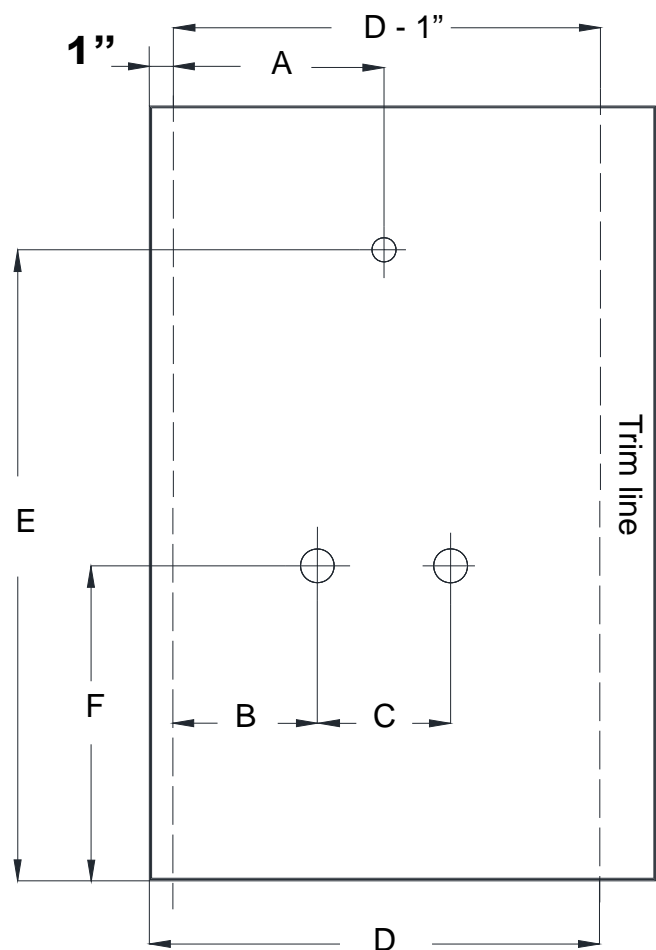
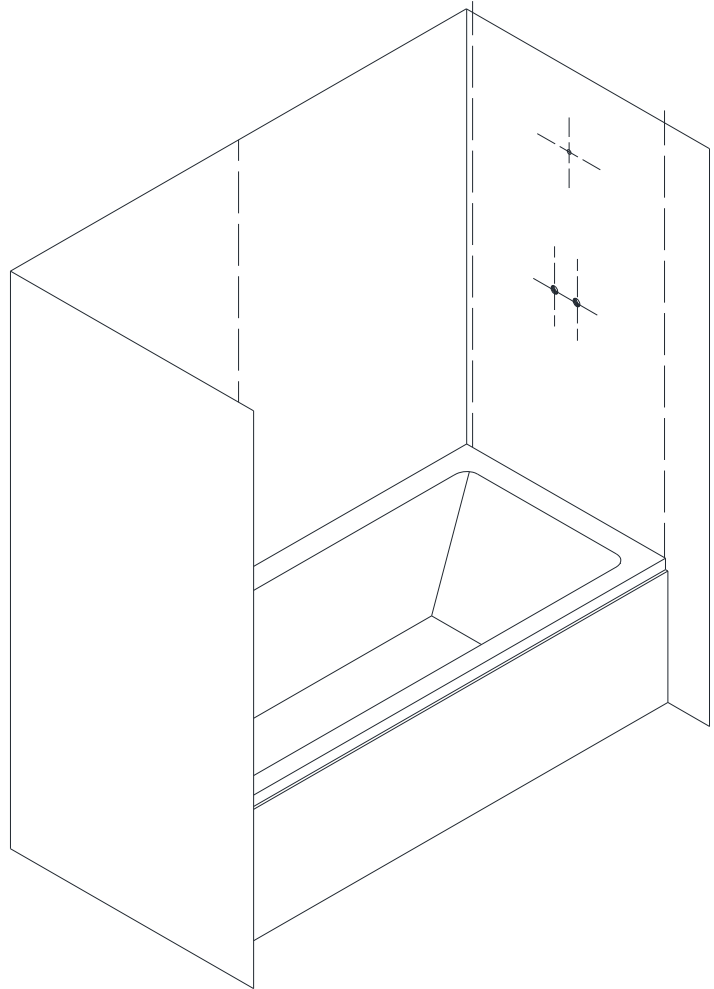

Fig. 4
Fig. 5
See Fig. 4 and Fig. 5 for details.
16. Place the marks on the **Side panel (01)** which is going to the side wall with the fixtures according to the taken measurements in Fig. 4.